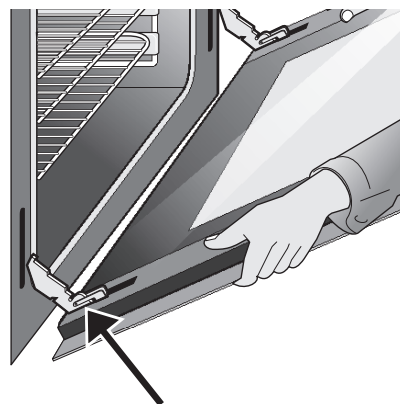

Figure 41: Carefully remove door grasping both sides and pulling hinges from door frame
3. Firmly grasp both sides of oven door along the door sides (Do not use the oven door handle).(Figure 41)
4. Before completing this step, be prepared to hold the whole weight of the door while grasping the sides of the oven door with both hands. Hold midway down the oven door sides. Close the oven door to about 4 inches from the door frame. The oven door should release from the frame on its own. (Figure 41).
2. Position the angle of the door to the door removal angle and carefully insert the door hinge arms fully and evenly into the door hinge slots. Carefully let the weight of the door transfer from your hands so that the oven now supports the oven door. (Figure 41).